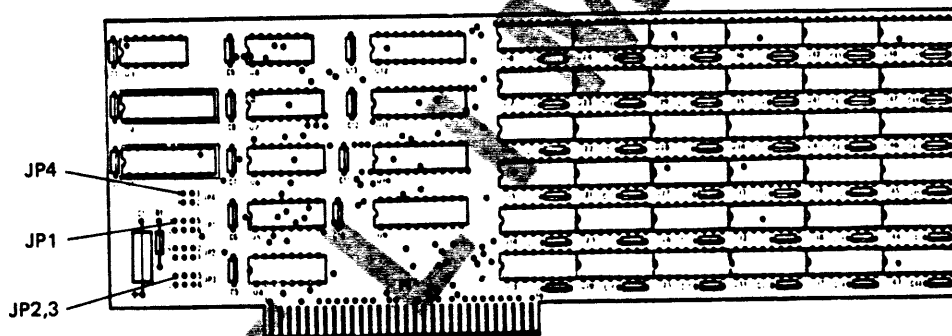
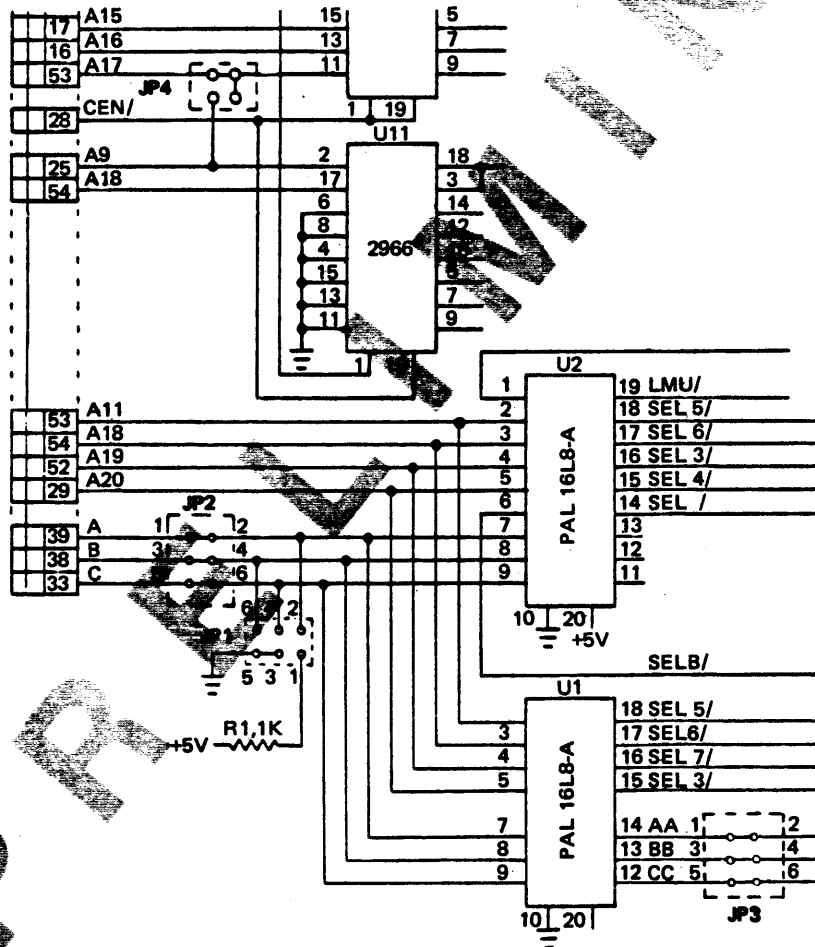

Figure 6-5. 1MB Memory Board
Figure 6-6. 1MB Board, Cuts/Jumpers
Figure 6-5 is a layout of the 1MB memory board showing the maximum (36) memory chips, each containing 256K bits. The dash number for each board that is available for ZEBRA 1700/1750 and for the earlier ZEBRA 700/750 models are summarized in Table 6-3. This table also calls out the required cuts for JP2, 3, 4, and required jumpers for JP1. Figure 6-6 illustrates the cut and jumper locations.